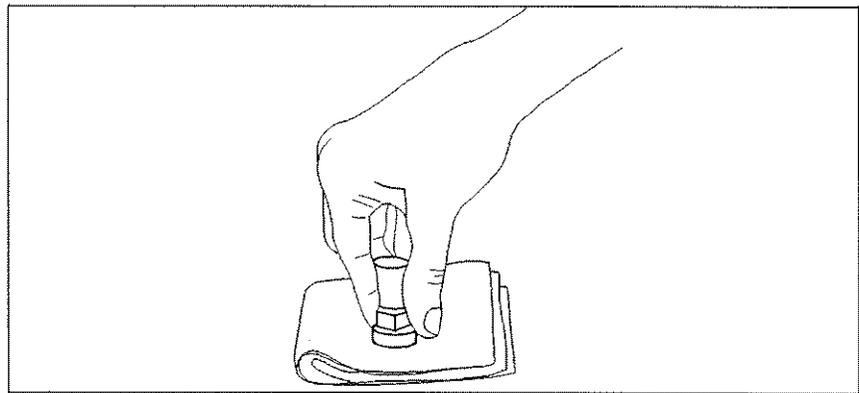

Figure 2-2.
4. Gently press the contact end of the connector into the moistened cloth and turn the connector (Figure 2-2). The cloth scrubs away dirt on the connector interface without damaging the connector.